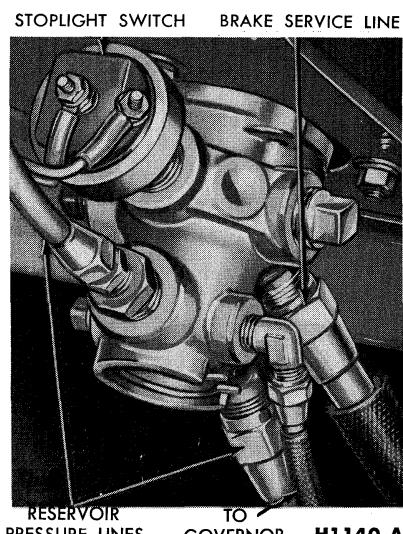

FIG. 17—Typical Foot Control Valve Installation
The brake valve has two tiers of four ports each (Figs. 17 and 19). The lower tier of ports connects to the reservoir pressure lines; the upper tier connects to the lines carrying brake service pressure. Of the four lower ports, one receives reservoir pressure; one sends reservoir pressure to the governor; and the other two (depending upon the model) either send reservoir pressure to some other part of the system, or they are plugged. On tractors, for example, the trailer emergency line connects to one of these ports in order to carry tractor reservoir pressure to the trailer reservoir.
2. Disconnect all but one line from the valve ports (Fig. 17). Loosen, but do not disconnect, the remaining line. This line will prevent the valve from falling when the retaining bolts are removed.
(two nuts and flat washers), and connect the battery cable (Fig. 17).
If the stop light does not operate, connect a jumper wire across the two switch terminals (Fig. 17). If the light now lights, replace the switch. If the light still does not light, repair or replace the two switch lead wires as necessary.